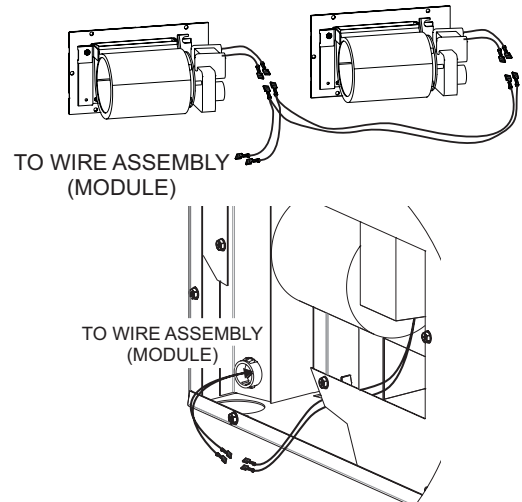

Figure 5
4. Remove protective connectors on Wire Assembly from fireplace and discard. Connect Wire Harness to both blowers and the other end to the Wire Assembly supplied with the fireplace. (**Figure 5**)